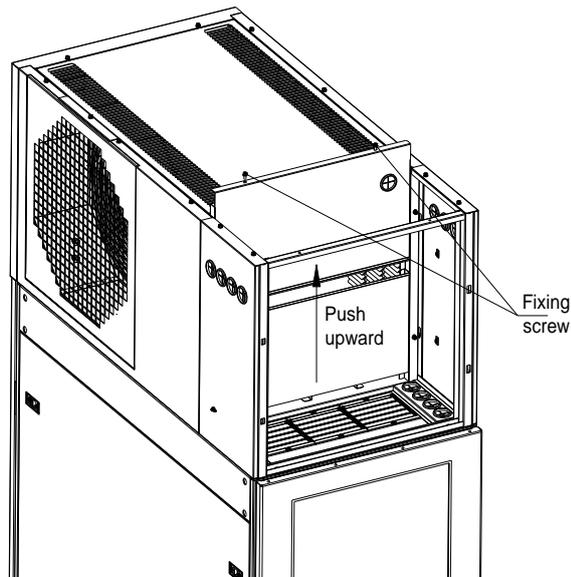

Figure 3-14 Top frame body-open the rear cover 2
2. Then open the internal cover, and the operating procedures are shown in Figure 3-14. You need to remove the two screws on the top of the cover and then push upward to remove the cover.
- 3) Turn the hex nut to the left to the maximum and open the condenser valve until you feel a significant resistance. as shown in Figure 3-14